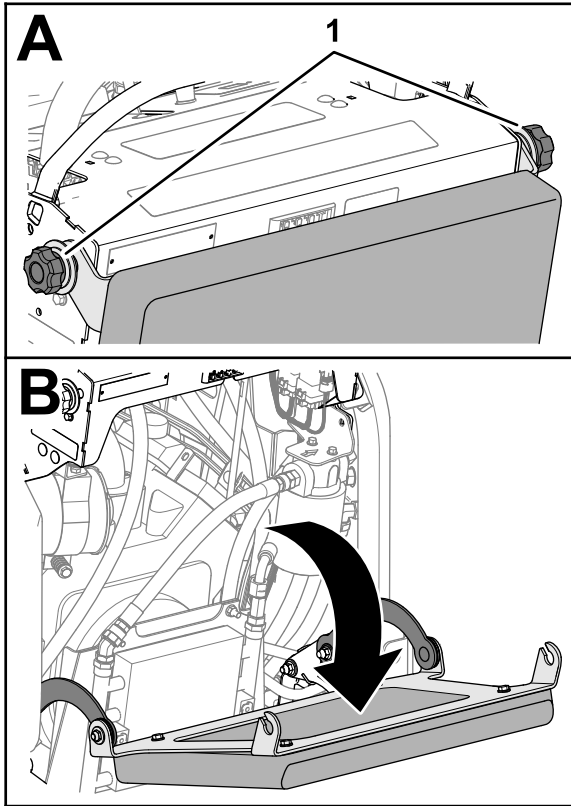

Figure 67
1. Loosen the 2 knobs that secure the operator's cushion to the control tower (Figure 67).
2. Lower the operator's cushion (Figure 67).